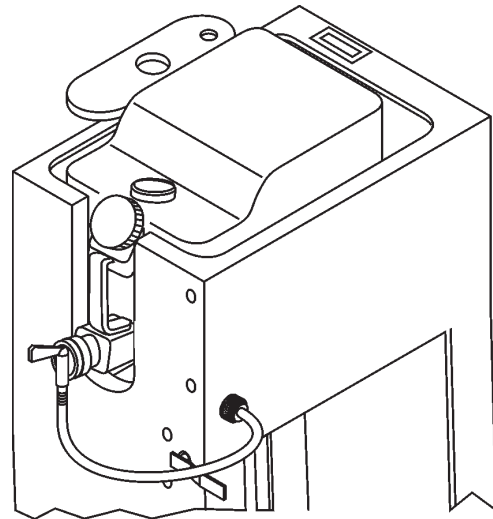

Figure 18. On-board Water Tank Hose Connection
The Cutter 3 saw is equipped with a removable 5-gallon on-board water tank fitted in the top of the console which can be connected to the brass hose fitting on the rear of the operators console (Figure 18).
2. For wet cutting operations, ensure the water tank is filled to capacity (5 gallons). Connect the water tank hose to the water system brass fitting on the rear of the console (Figure 18) and test for adequate water flow to the diamond blade before operation.